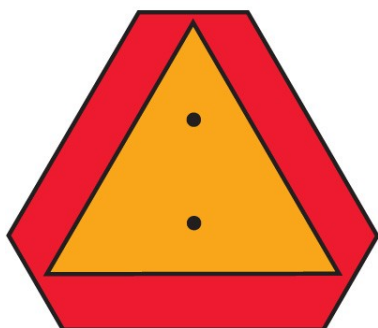

Figure 3-16: SMV Sign
12. Transport during daylight hours whenever possible. Always use flashing warning lights, except where such use is prohibited by law. Make sure lights, reflectors and SMV emblem are clearly visible and operating. Remove any obstructions such as dirt, mud, stalks or residue that restricts view before transporting. **See Figure 3-16.**